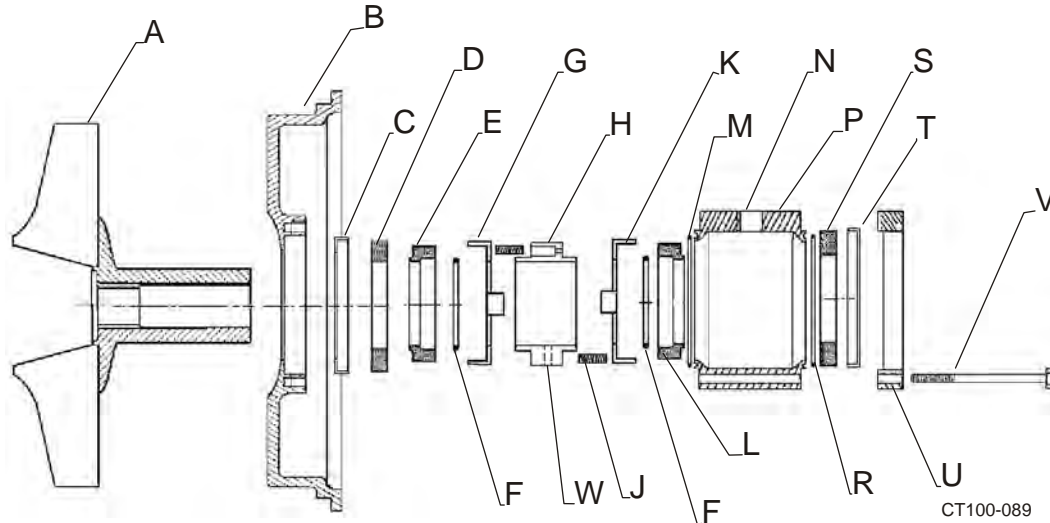

Figure 36 - Type 4 Seal Components
The Type 4 Seal is essentially two Type 1 seals assembled back to back in a chamber which bolts to the backplate in place of the stationary seat retainer. Except for the additional components (chamber, seals), Type 1 and Type 4 components are interchangeable (Figure 36).
4. Place the impeller assembly **face down** (on impeller vanes) and remove the hex head screws (Figure 36, item V) from the back of the seal assembly.
5. Carefully lift off the seat retainer, o-ring, L-gasket, stationary seal, and flush housing (Figure 36, items P, R, T, S and U).
6. Loosen (2) set screws in the spring retainer (Figure 36, items W and H).
7. Lift off rotating seal components See Figure 36: